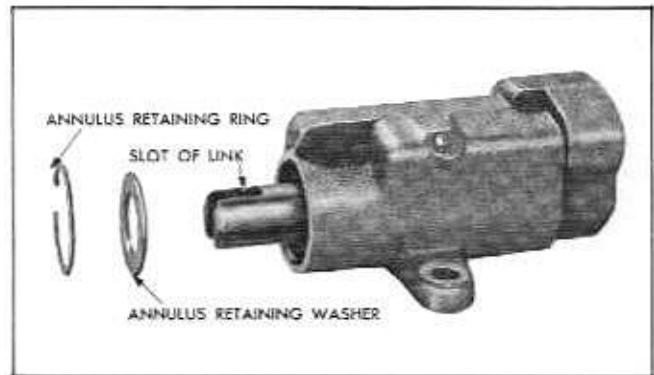

Fig. 9-28 Exploded View—Annulus Retaining Ring and Washer
1. Remove annulus retaining ring and annulus retaining washer using snap ring pliers J-4245 (Fig. 9-28). NOTE: Pliers can be used more effectively if spool assembly is turned to a position so that pivot of pliers can be moved into slot of link.